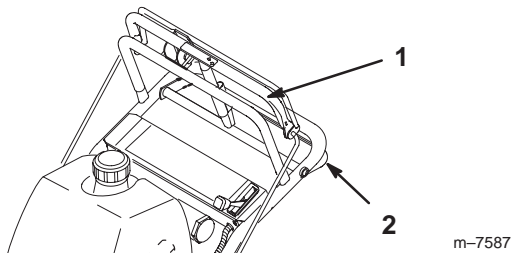

Figure 20
3. Slowly press on the upper control bar to move forward (Fig. 20).
To go straight, apply equal pressure to both ends of the upper control bar (Fig. 20).
To turn, release pressure on the upper control bar side toward the direction you want to turn (Fig. 20).
3. Slowly squeeze on the lower control bar and handle together to move rearward (Fig. 20).